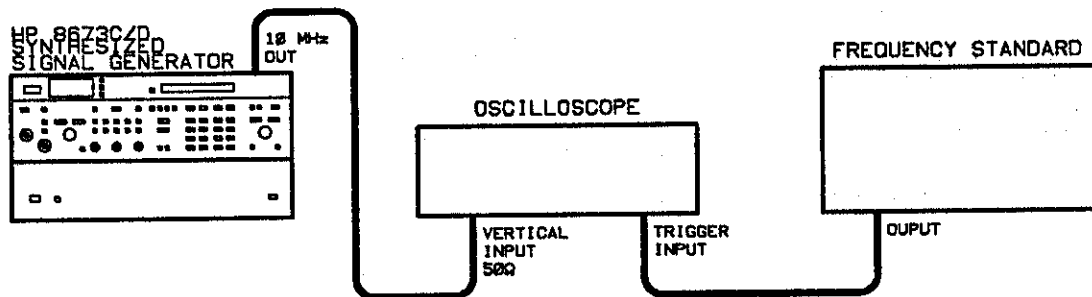

Figure 5-5. 10 MHz Reference Oscillator Adjustment Test Setup
2. Connect the equipment as shown in figure 5-5. Set vertical input of oscilloscope for 50 Ω input impedance.